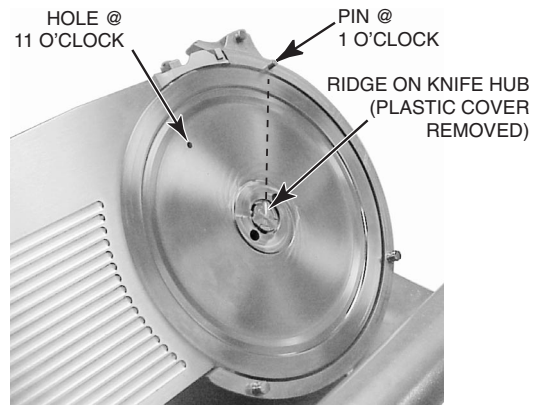

Fig. 19
- Rotate the KNIFE using your hand on the back of the knife, the RIDGE on the KNIFE HUB must align with the PIN on the RING GUARD at the 1 o'clock position (Fig. 19).